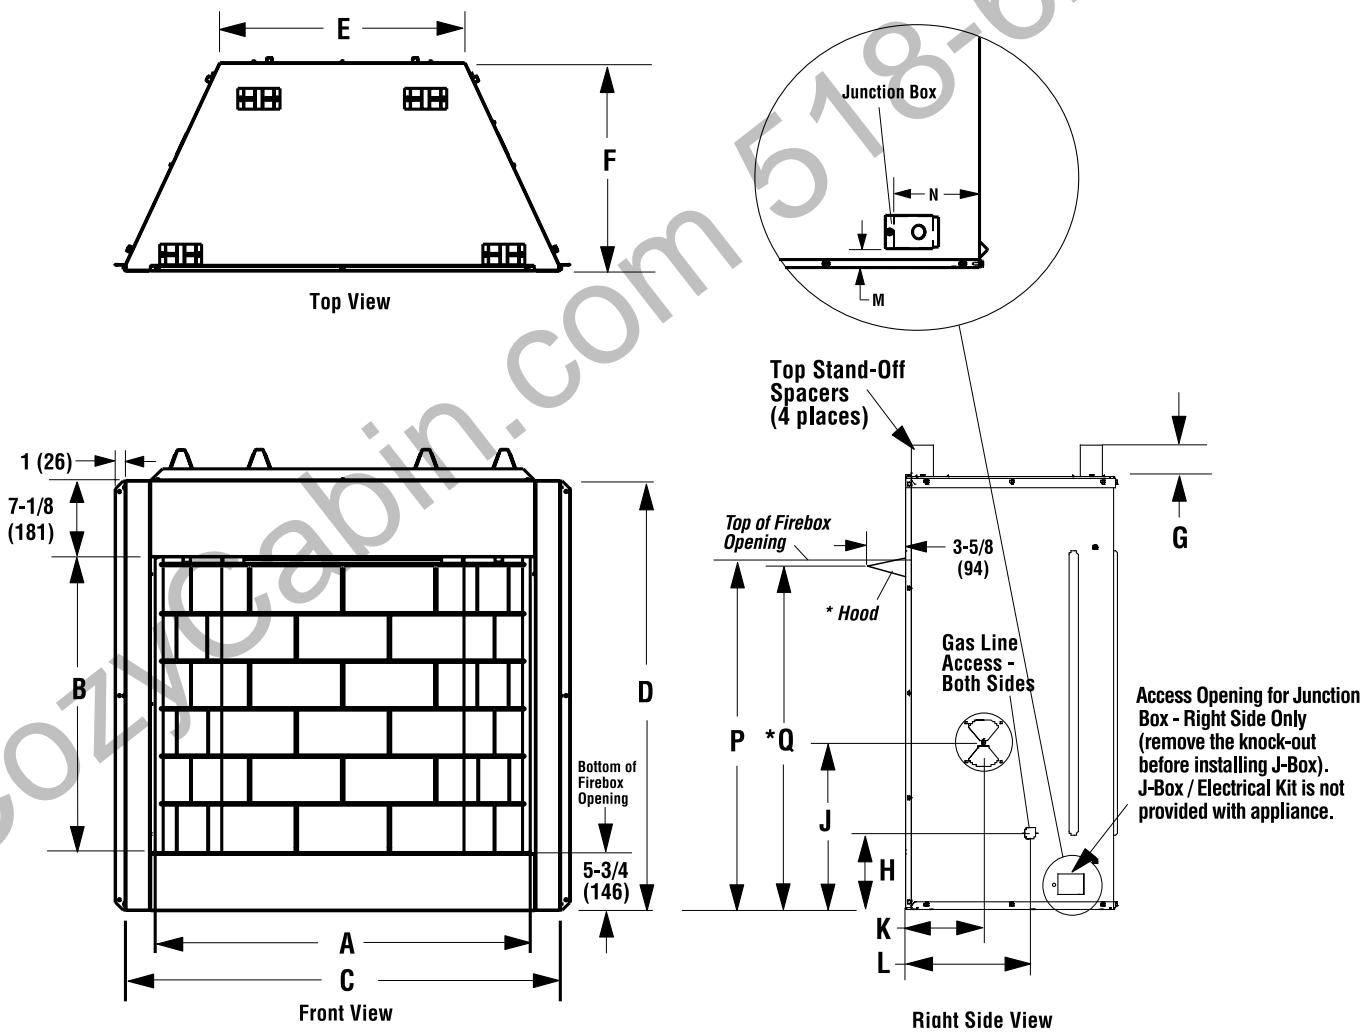
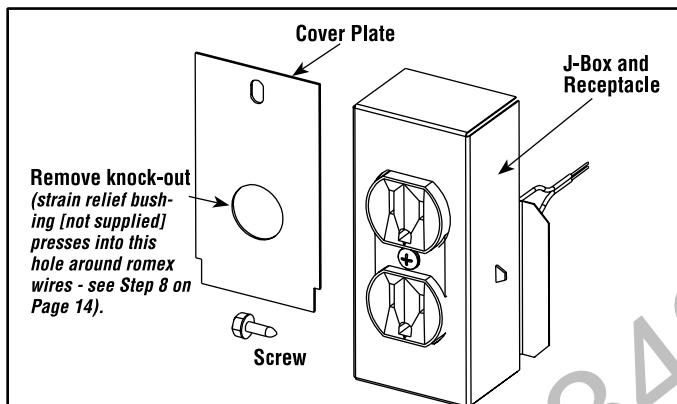

Figure 6
Figure 16 - Junction Box Kit (all models)
Remove the gas line access cover plate on either the left or right side of the fireplace (see **Figure 6** showing locations).
Construct firebox framing following **Figures 7 through 9** and **Table 1 on Page 11** for your specific installation requirements. Refer to **Figure 6** on **Page 10** for firebox dimensions.
Under no circumstances shall the firebox top spacers be removed or modified (see **Figure 6). The header may be in direct contact with the top spacers but must not be supported by them, notched or altered to fit around them.**
Step 2. Remove the rectangular knock-out (for J-Box) on the right side of unit (see **Figure 6** for location). Install the Junction Box and Electrical outlet below the firebox floor into the rectangular opening on the right side cabinet panel where you removed the knock-out (see **Figures 16 and 17**). *The Junction Box / Electrical Kit is sold separately (see Page 15 for ordering information).*
- *Wires will need to be passed through the hole shown in Figure 16.*
- *An approved strain relief bushing (not supplied with the kit), is required to restrain the wires (see Figure 16).*
Step 7. Locate the J-Box cover (provided in J-Box Kit). Remove the round knock-out (see **Figure 16**).